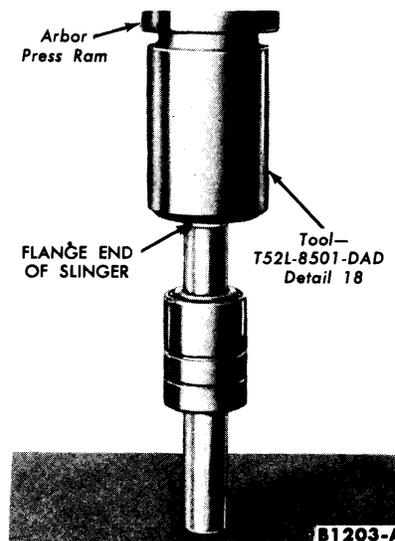

FIG. 5—Replacing Slinger
2. Install the new slinger on the new bearing and shaft assembly furnished in the repair kit (Fig. 5). Locate the slinger in the same relative position as the slinger on the old shaft.